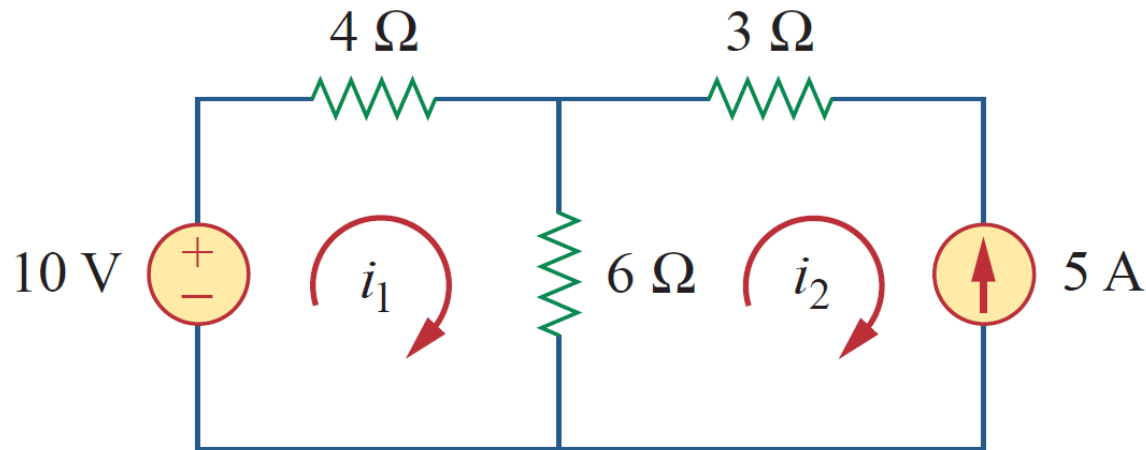

Figure 3.22
- **CASE 1 When a current source exists only in one mesh: Consider the circuit in Fig. 3.22, for example.**